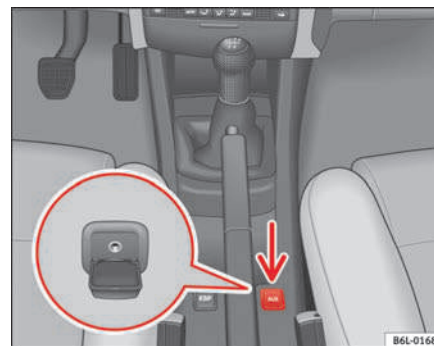

Fig. 84 Auxiliary audio connection
- Lift the AUX. cover ⇒ fig. 84.